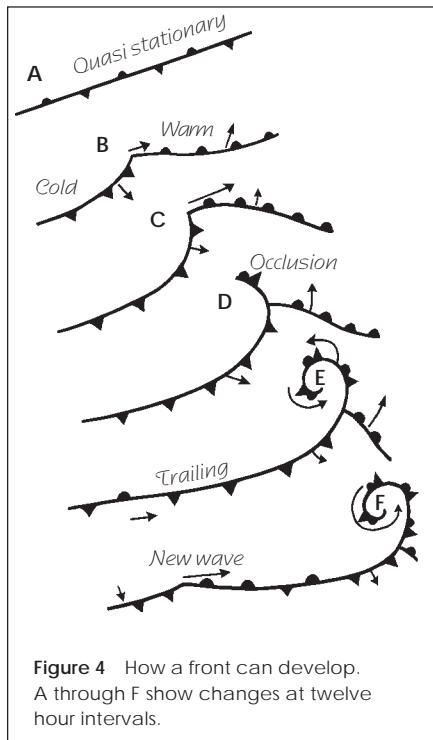

Figure 4 How a front can develop. A through F show changes at twelve hour intervals.
**Time variations** Figure 4 shows how an originally almost straight front can develop with